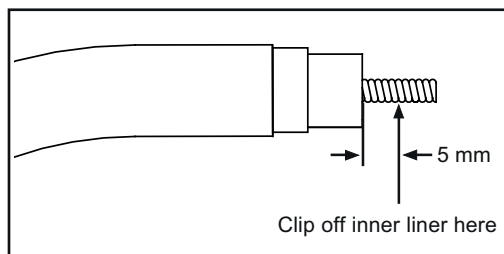

Fig.3
- 5 Clip off the inner liner at the end of the torch body (+ 5mm) (Fig. 3). Do not make the inside diameter any smaller!